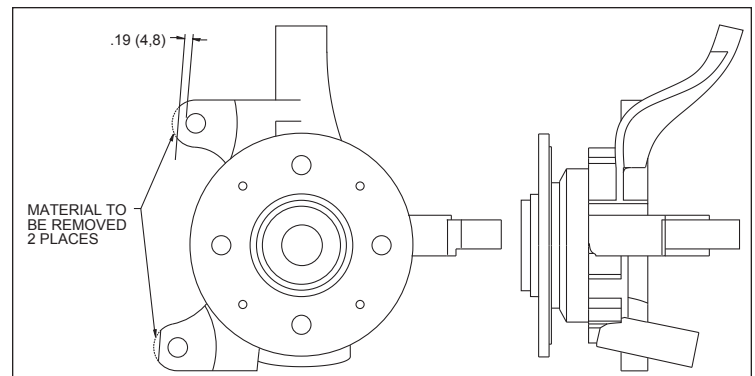

Figure 2. Spindle Modifications
- Before any tear-down or disassembly begins, modifications are required to the stock spindle. This includes removing some material from the stock spindle caliper mounting area that will interfere with the assembly of the Wilwood disc brake kit. It is recommended that these modifications be performed by a qualified machine shop. Please refer to the modification procedure and Figure 2 below.
- These modifications should be performed by a qualified machinist. Refer to Figure 2, right. Only one view of the spindle is shown, but the modifications need to be performed on both spindles.